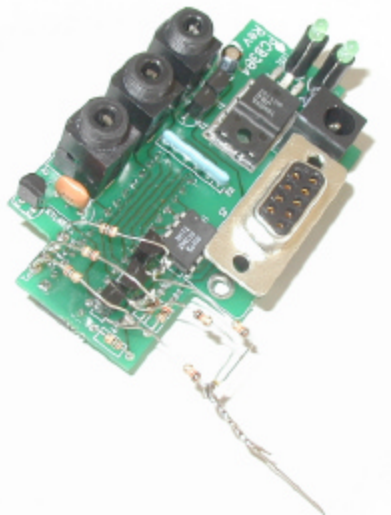

Figure 9: All three channels modified
11. Install additional J309 JFETs and resistors as required to modify the desired number of channels (**figure 9**).